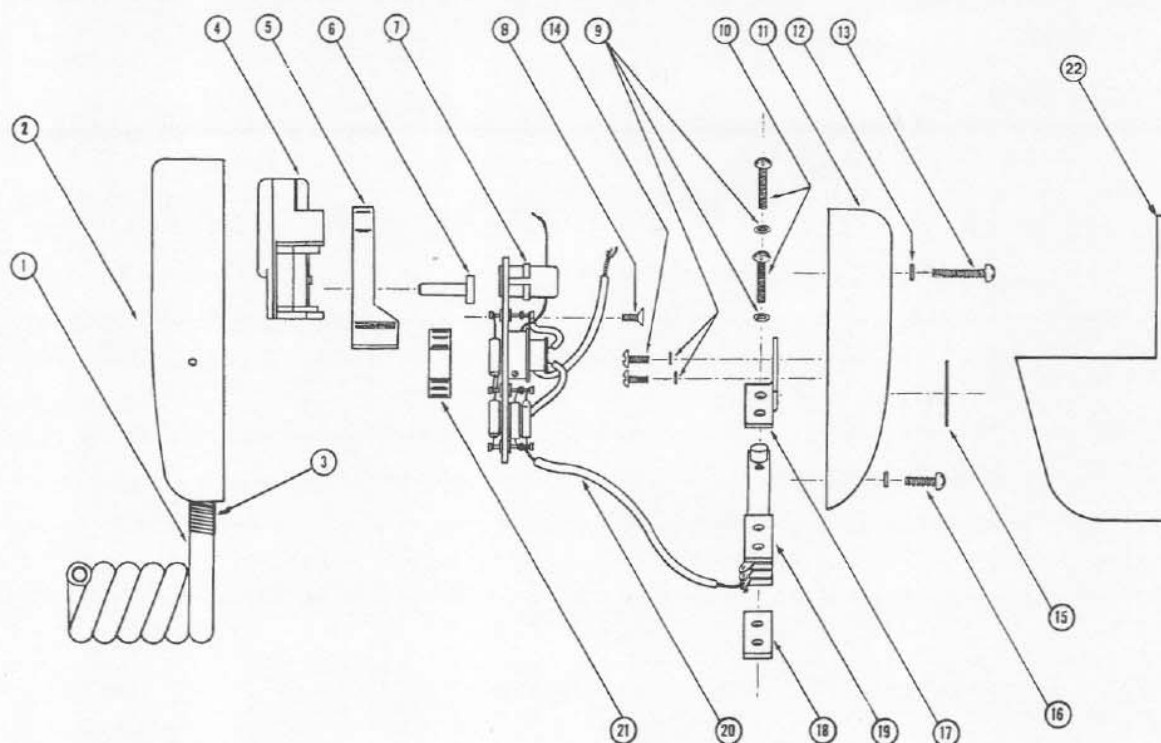

FIGURE 8 — Model 603T Assembly
2. Disassembly. (See Figure 8)